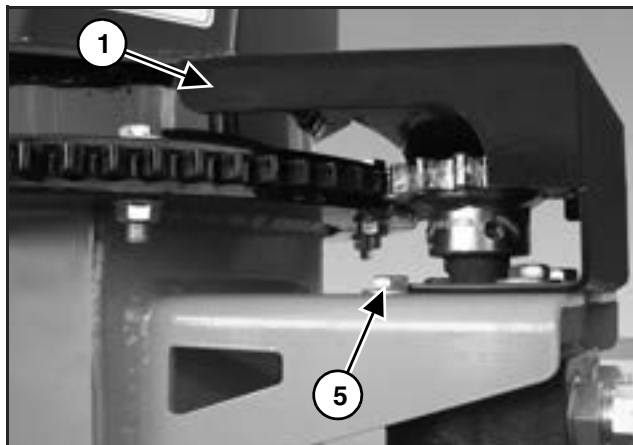

Figure 15
1. To adjust the gear engagement (backlash), loosen motor mount bolts (Item 5) [Figure 15], adjust motor forward or backward to fully engage drive gear into rotation gears and tighten motor mount bolts (use loctite® on motor mount bolts).
2. Reinstall the chute rotate gear cover (Item 1) [Figure 15].